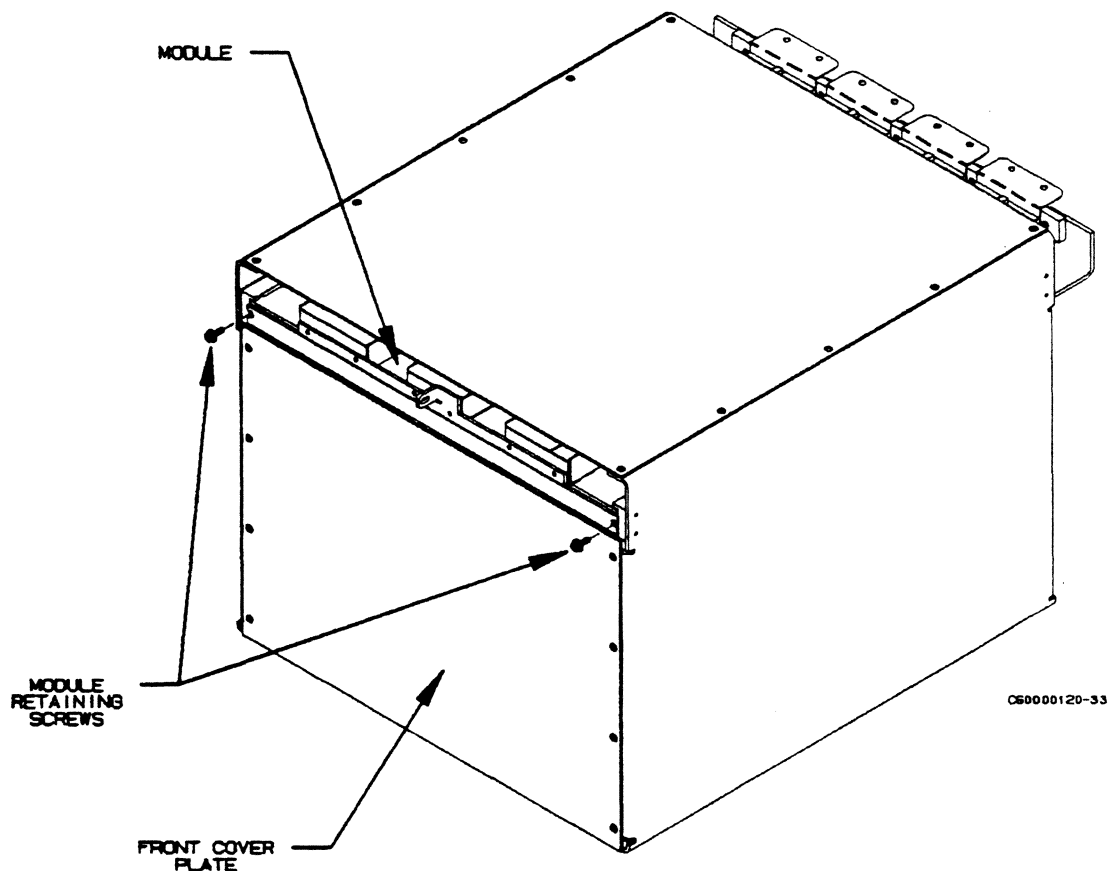

Figure 3-7. Remote IOU Interface Module Mounting Box
- 1. Remove front cover plate from Remote IOU Interface Module mounting box (figure 3-7).